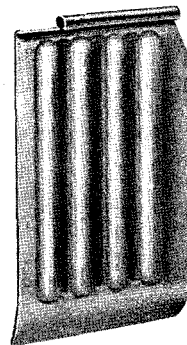

Fig. 63—P-296792 Coin Shield
- (1) Place P-247411 pin through tubular bearing at top of P-296792 shield. Curved-in portion on bottom of shield is toward hopper when loop of pin is to be the front (see Fig. 63).
- (2) Hold loop of pin with long nose pliers or fingers and place coin shield pin in hole in rear of hopper.
- (3) Hold shield in place with fingers and secure end of loop in front hole of hopper with long nose pliers.
- (4) Adjust loop so that pin does not come out when play is taken up in either direction.
- (5) Check operation of shield.